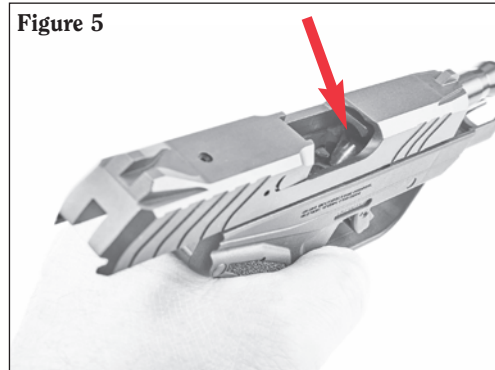

**Figure 3**
1. **Keep pistol pointed in a safe direction.** Press the magazine latch and withdraw the magazine from butt of pistol (see Figure 3).